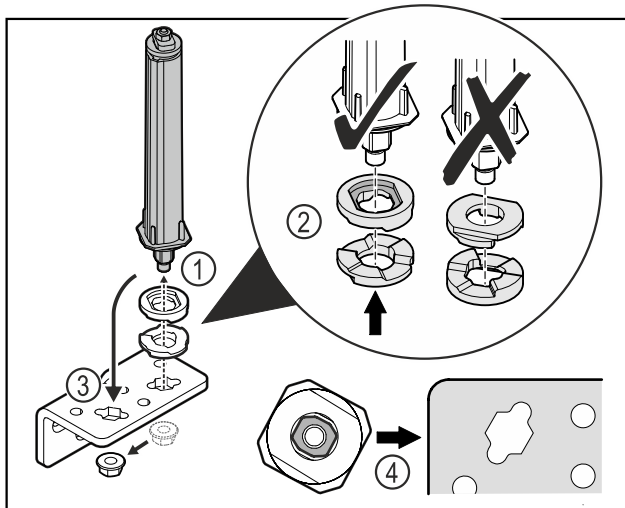

Fig. 52
- ▶ Loosen the nut and remove the door closing system Fig. 52 (1).
- ▶ Observe the correct alignment of the height adjustment washers Fig. 52 (2).
- ▶ Put the door closing system in the hinge and fix in place with the nut Fig. 52 (3).
- ▶ Observe the correct alignment of the door closing system when doing so Fig. 52 (4).